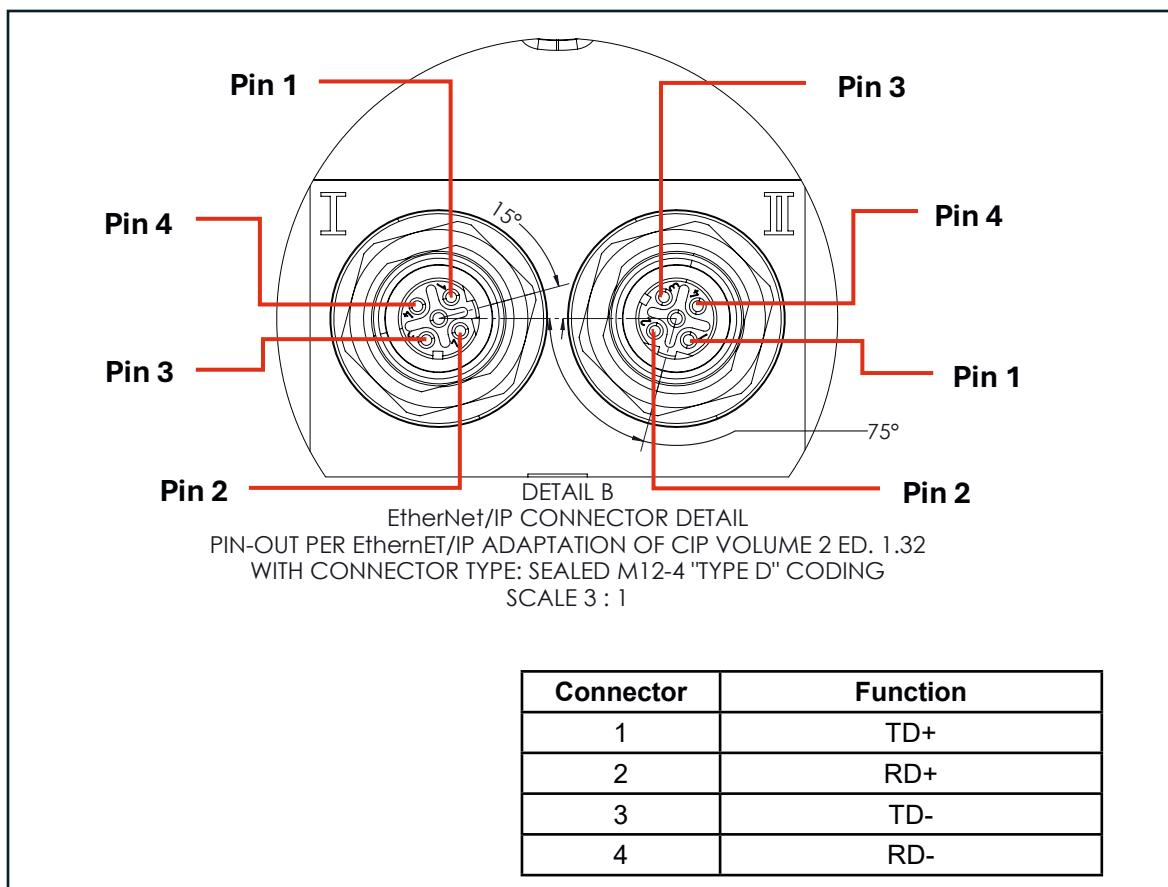

Figure 1-4 Electrical Connections, Signal
- Two (2) M12 4 pole threaded female connectors labeled “1” and “2” for Ethernet/IP™ communications (Figure 1-4).